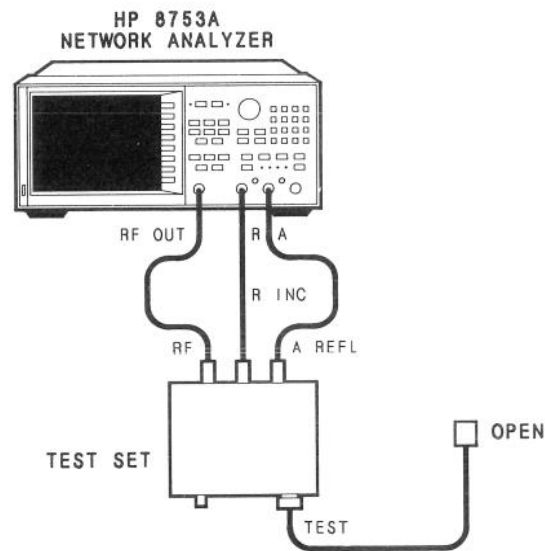

Figure 10. Input B Impedance Test Setup
1. Connect the equipment as shown in Figure 10. The HP 85046A 50Ω S-parameter test set may be substituted for the HP 85044A 50Ω transmission/reflection test set. In that case, use port 1 of the HP 85046A. Remember to connect the test set interconnect cable.
6. Connect a type-N (f) open to the male adapter on the test port cable and press **[OPENS] [OPEN (M)] [DONE: OPENS]**.
7. Connect a type-N (f) short to the male adapter on the test port cable and press **[SHORTS] [SHORT (M)] [DONE: SHORTS]**.